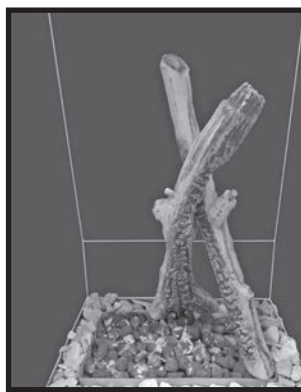

Figure 44: Log 2.
2. Interlock right log with rear log (Figure 44).